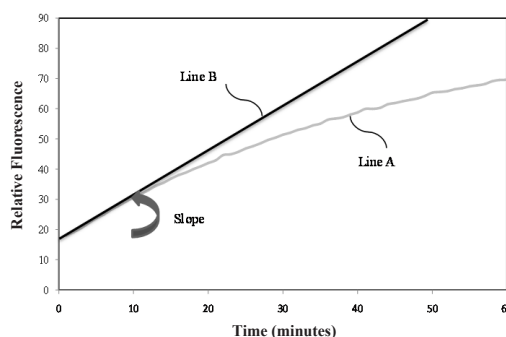

Figure 2. A typical reaction profile of EvaEZ fluorometric polymerase activity assay.
- Line A in Figure 2 is a typical reaction trace recorded by a real time qPCR instrument (e.g. ABI 7900). The X-axis is time in minutes; the Y-axis is fluorescence. Make a contingent (Line B) that passes through time 0. The initial rate of fluorescence change (fluorescence unit/minute) resulting from the polymerase activity is represented by the slope of Line B.
- Determine the initial rate of fluorescence increase for each polymerase dilution by calculating the slope of the initial linear portion of the curve before fluorescence begins to plateau (see Protocol A, step 3 and Figure 2).